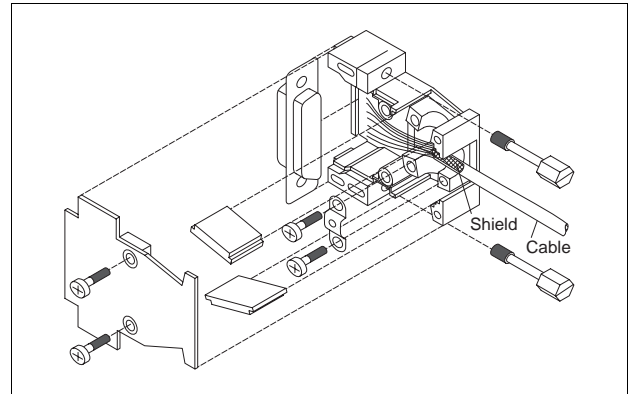

Fig. 2-9 Signal connector assembly – unit side
3. Screw two hexagon head bolts (fig. 2-9) into the connector shell.